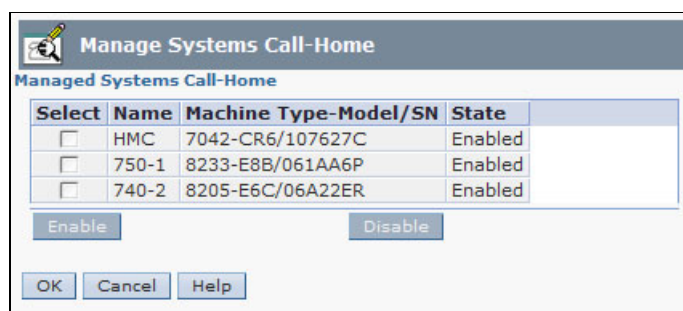

Figure 6-11 The call home feature
3. From the next window, select a system or systems for which you want to enable or disable the call-home state, and then click **Enable** or **Disable** (Figure 6-11).